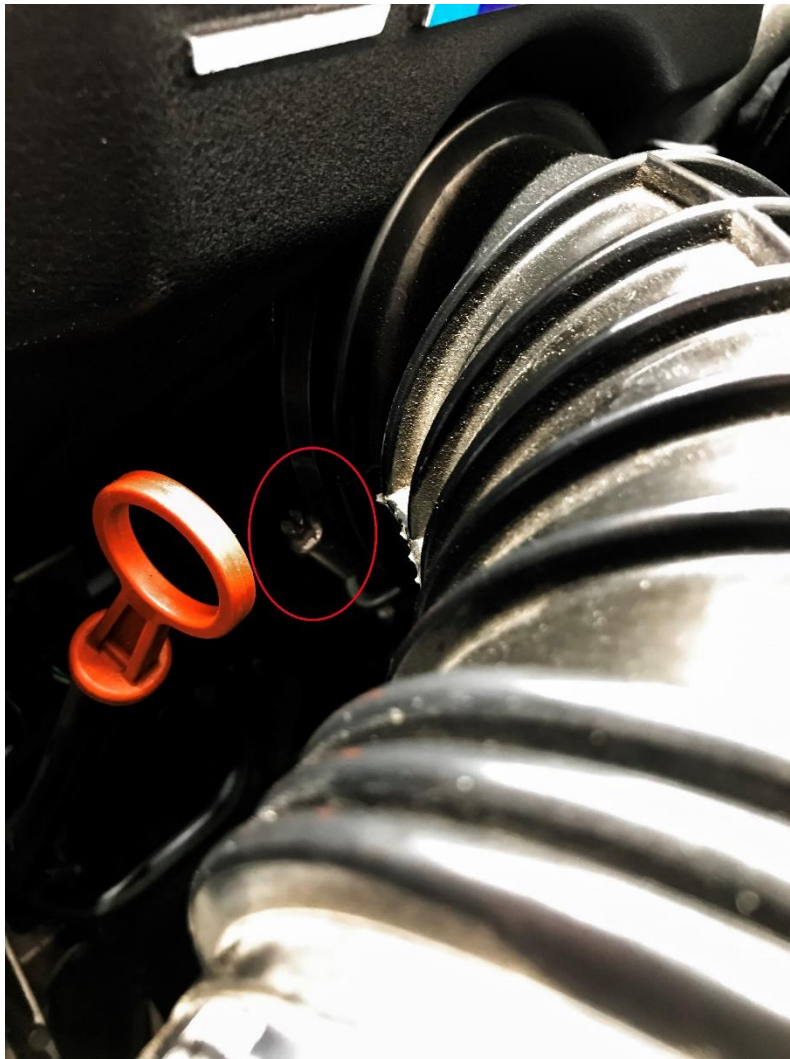

Figure 7
7. Using your flat head screwdriver loosen the hose clamp that holds the main intake boot to the plenum. Remove intake boot and clean and inspect, looking for any cracks. If the boot is aged and showing signs of cracking and rigidity, we suggest replacement, part number is 11611312062 for the S38B36 and 11611317495 for the S38B38. See Figure 7.